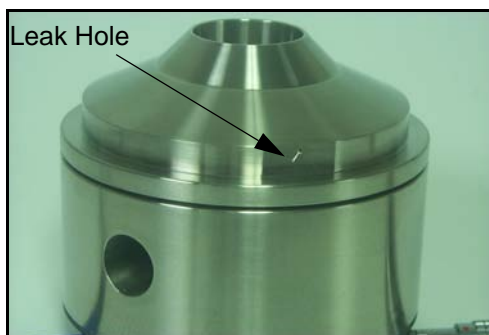

FIGURE 5-5 AEC100 with coupler, leak hole
- Step 2** Visually inspect the coupler (MAE100.1) for gouges, scratches and dents which may affect the measurement, especially around the lip which will be in contact with the test earphone. Verify that the small metallic wire in the capillary leak hole is present with no other obstructions (FIGURE 5-5).